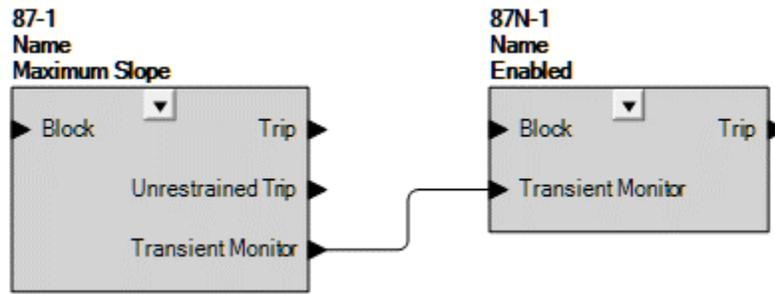

Figure 40-1. Transient Delay Logic
A user-defined transient delay time provides security from misoperation on false residual caused by CT saturation during a through fault. Commonly, the transient monitor function from the phase current differential (87) function detects CT saturation and is routed to the 87N Transient Delay initiate. The 87N Trip logic output is then routed through a timer when the Transient Monitor logic input is asserted. See Figure 40-1. The timer should be set longer than the normal clearing time for a fault just outside the zone of protection to allow it to ride through until the external fault is cleared.